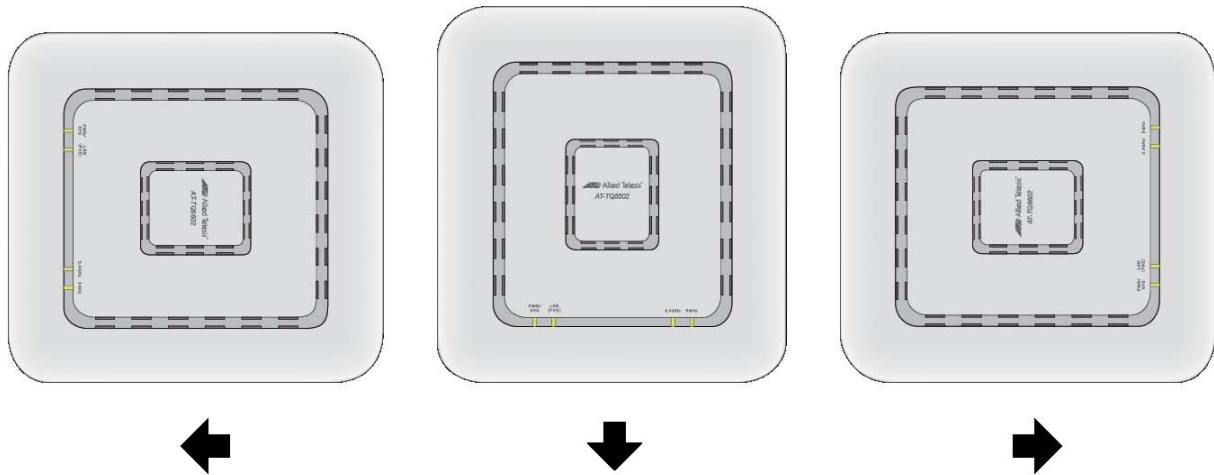

Figure 29. Seating the Wireless Access Point on the Wall Mounting Bracket
2. Slide the wireless access point until its screws are seated in the bracket keyhole slots and the bracket thumbscrew is aligned with the screw hole on the front panel. Refer to Figure 29 on page 60.